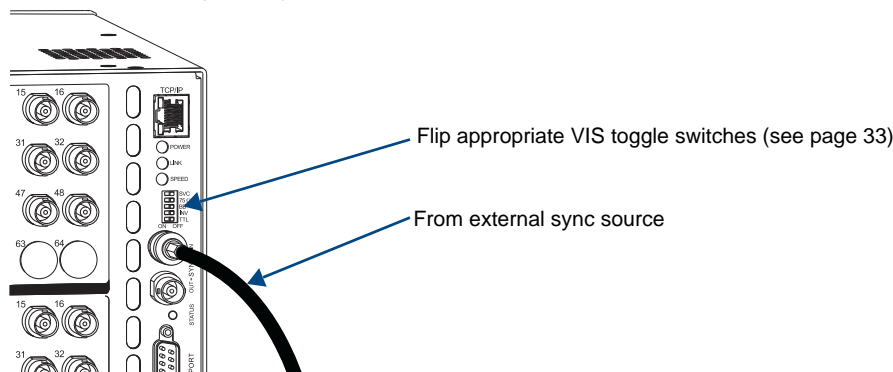

FIG. 23 Attach external sync cable to Sync In connector
1. Attach the external sync cable from the signal source to the Sync In connector on the right rear of the enclosure (FIG. 23).